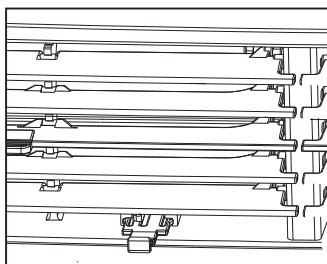

Figure 1 (VENT CLOSED)
1. Pushed In (Fig. 1) – Recirculates inside air